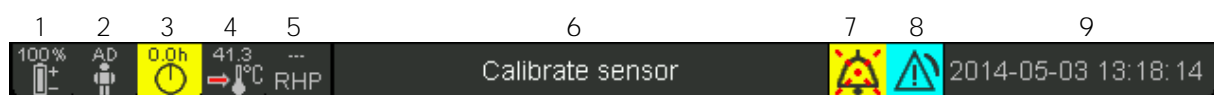

Figure 8 The Status Bar
Note: The 'Patient Info' is also duplicated in the SDM's main menu (Table 36) and - if no Status Message has to be displayed - in the SDM's status bar (Figure 8) enclosed in "[and]".
<p>Example of a Menu screen</p> 	<p>A blue (or yellow), underlying bar highlights the selected sub-menu, menu parameter or function.</p> <p>Current value/alarm limits of monitored parameters (except for PO2) are displayed on the right and the 'Status Bar' (Figure 8) with Status Message and Status Icons is located in the bottom.</p>
-  **Note:** The Status Bar (Figure 8) and the visual alarm signals provided therein are not displayed on the 'Review Trend Data Screen' (Figure 11), the 'Trend Data Statistics Screen' (Figure 12), the 'V-Check Results Screen' (Figure 15) and the 'Ready for use' screen (4.2.4).
The Status Bar (Figure 8) is located at the bottom of all 'Measurement' screens (4.2.3), of all 'Menu' screens (4.2.5) and of the 'Calibration' screen (4.2.4).
On the left side of the Status Bar (Figure 8), the following five Status Icons are displayed:
The 'Alarm Status Icon' in the Status Bar (Figure 8) meets the requirements of IEC 60601-1-8 (Table 2) and indicates the priority of the highest priority alarm condition. If two or more alarm conditions occur at the same time, it indicates the highest currently active alarm priority.